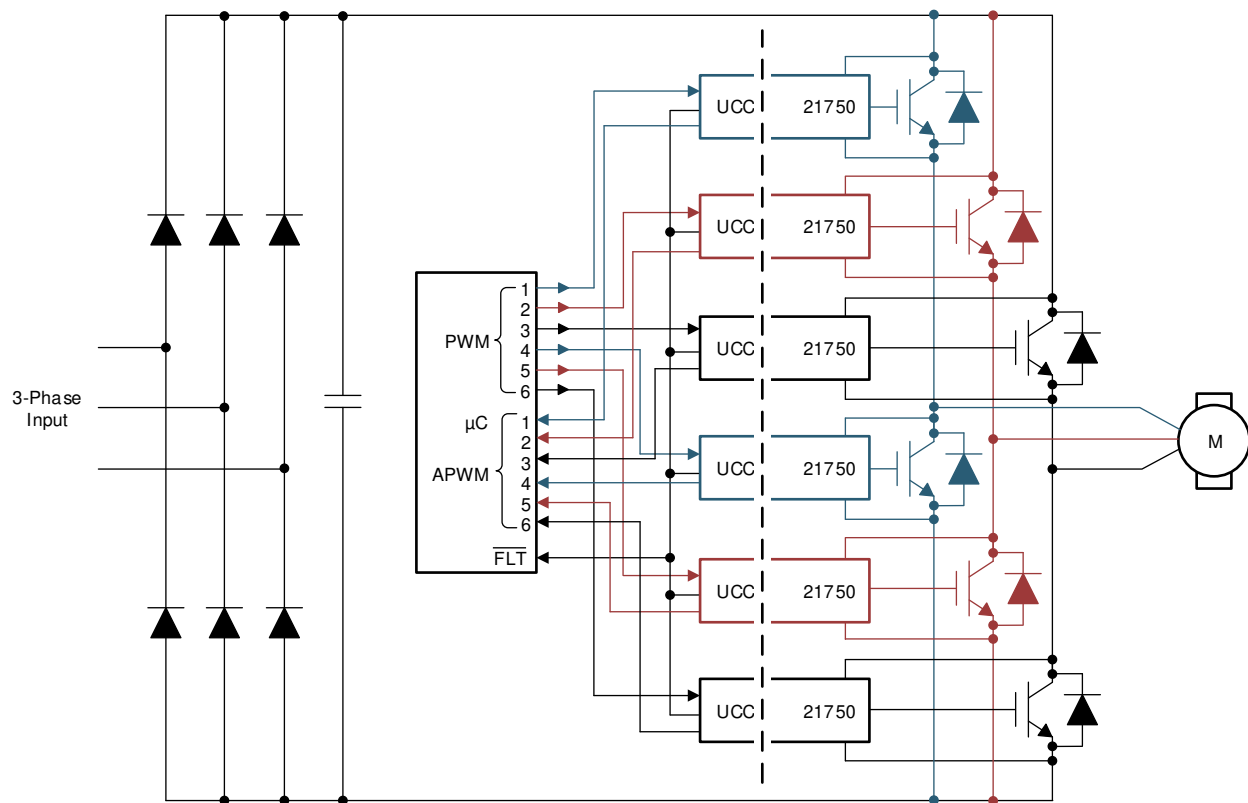

Figure 9-1. Typical Application Schematic
**Figure 9-1** shows the typical application of a half bridge using two UCC21750 isolated gate drivers. The half bridge is a basic element in various power electronics applications such as in motor drive applications to control the operating speed and torque of an AC motor.